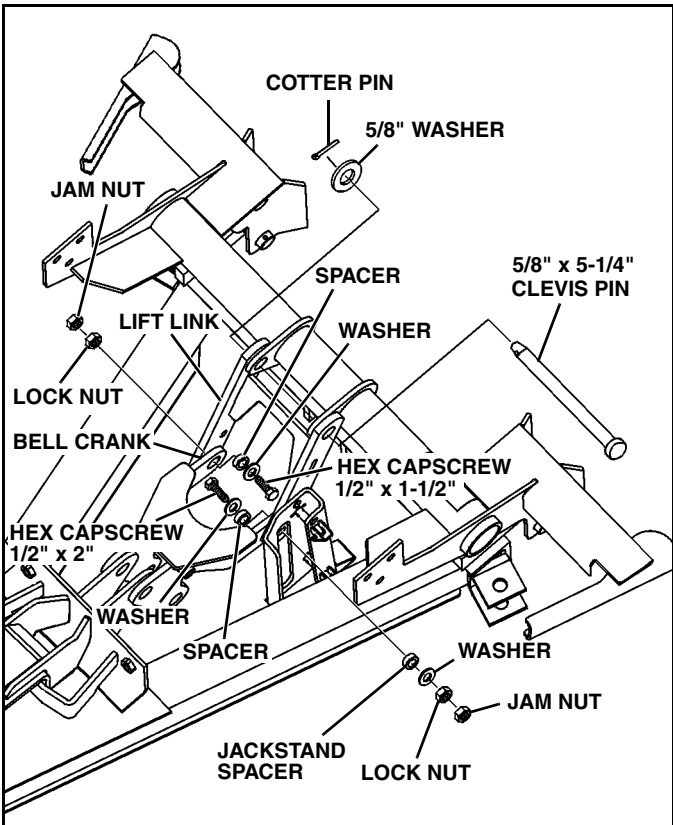

Figure 1-5
10. Pin lift link to light/lift bar, using the 5/8" x 5-1/4" clevis pin from the parts bag. Place a washer over the end and secure with a cotter pin. (See Figure 1-5)
On the passenger's side, use a 1/2" x 1-1/2" bolt, special washer, long bushing, lock nut and jam nut. Coat the long bushing with anti-seize compound and insert it into the bell crank. Slide a special washer over the bolt and insert it from the bell crank side. Secure the bolt on the lift link side with a lock nut and jam nut. (See Figure 1-5)
Secure jack stand with a special washer, lock nut and jam nut. (See Figure 1-5)